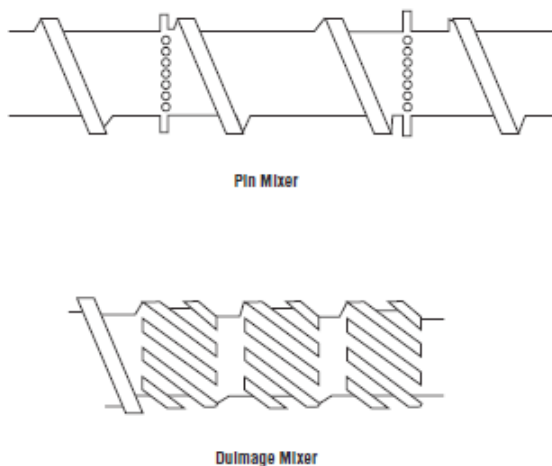

Figure 22b. Distributive Mixing Sections
Many distributive mixing sections are now available. They may be classified into four main groups (1) slotted flight mixers, (2) pin mixers, (3) cavity mixers and (4) variable depth mixers (Figure 22b.). If judged by the criteria outlined above, slotted flight mixers are probably the best. The Dulmage mixing section (Dow) is probably the best known. It has several, shallow-angled, multi-flighted sections separated by tangential grooves. The section is formed by machining several flights over approximately 3 D in length and then making three cuts completely across (around) the flights. Because these grooves do not overlap, the barrel surface is not completely wiped by the rotating screw. A Saxton mixing section (DuPont) overcomes this problem by using helical grooves. It gives good distributive mixing with a low pressure drop as the mixing section has some forward conveying action.